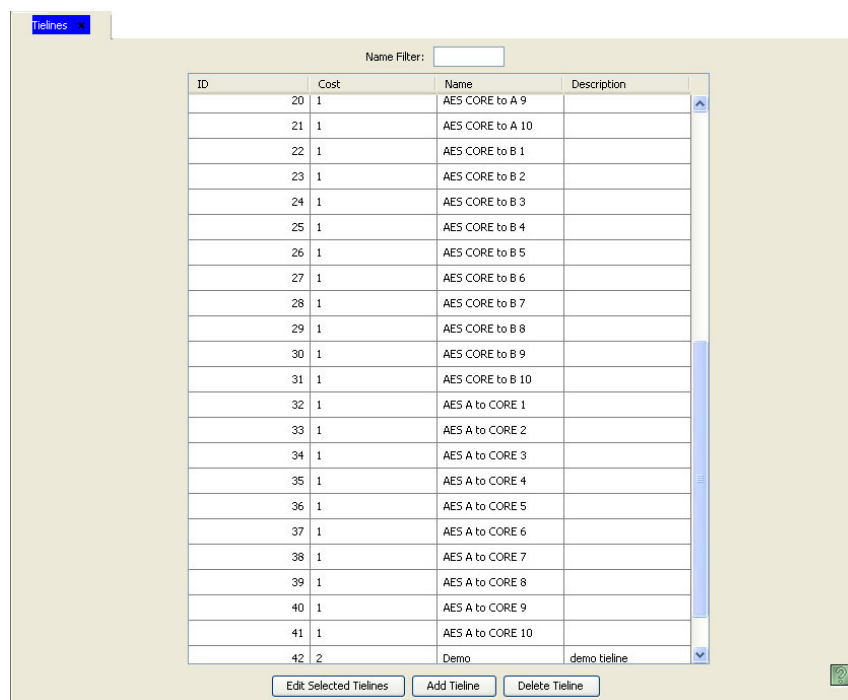

Figure 16-19. Tieline Page
- 2 From the Navigation area, select the ‘Configuration’ pane and then ‘Tielines’. The ‘Tielines’ page displays, as shown in Figure 16-19. All tielines currently defined in the system are listed. To narrow the list, enter the first characters of the tieline’s name in the ‘Name Filter’ field. The list is automatically reduced to display only tielines matching that character string.